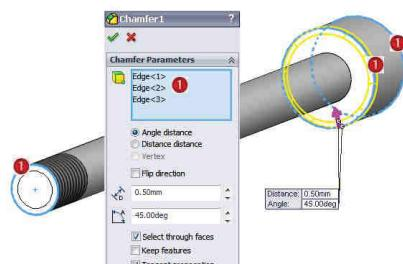

Fig. 2.36
comanda Chamfer - Fig. 2.36
the Chamfer command - Fig. 2.36 – Select 3 edges ① / Angle distance / 0.5 mm Distance / Angle 45 / .